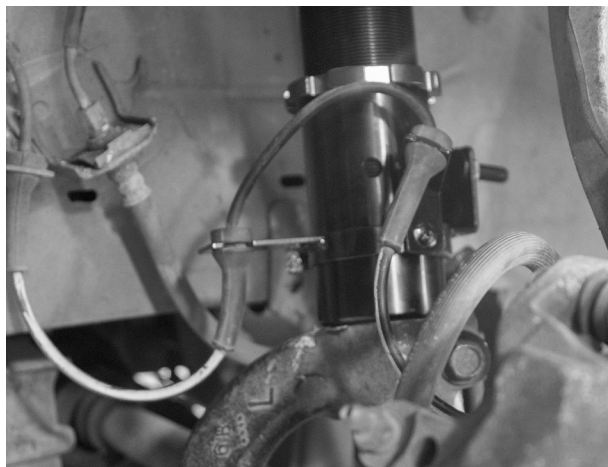

Fig. 18
6. Reinstall the wheel speed sensor wire (Fig. 18).